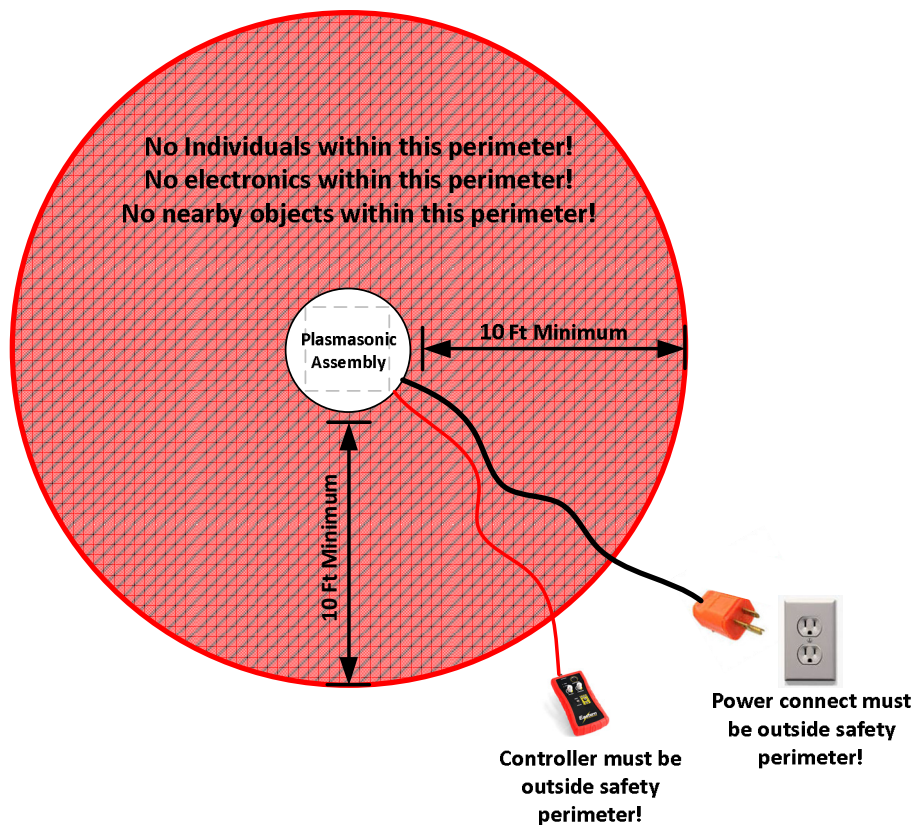

Figure 6 – Minimum safe operating area
- 1. The first step in setting up your Plasmasonic DRSSTC system is to find a suitable area that is both safe, free of nearby obstacles and electrical / electronic equipment, and provides the minimum safe operation distance that operators and spectators must be away from the Tesla Coil during operation. Figure 6 below defines the minimum safe operating distances required for safe operation of the Plasmasonic DRSSTC system.
- 3. Verify that everyone is at a safe viewing distance away from the Plasmasonic system per the layout shown above in Figure 6.
- ❑ 8. Plug in the AC power cord to an appropriate 120VAC outlet which is rated for at least 20A. Again ensure that all individuals and pets are safely away from the Tesla Coil per the recommend safety layout shown above in Figure 6. Once the unit is plugged in, you should see the LED illumination turn on (if equipped) and the two (2) cooling fans should be operating. The LED on the power distribution board should be illuminated as are the two green STATUS LEDs on the Advanced Controller module.
- 4. Verify that everyone is at a safe viewing distance away from the Plasmasonic system per the layout shown above in Figure 6.
- 8. Plug in the AC power cord to an appropriate 120VAC outlet which is rated for at least 20A. Again ensure that all individuals and pets are safely away from the Tesla Coil per the recommended safety layout shown above in Figure 6. Once the unit is plugged in, you should see the LED illumination turn on (if equipped) and the two (2) cooling fans should be operating. The LED on the power distribution board should be illuminated as are the two green STATUS LEDs on the Advanced Controller module.